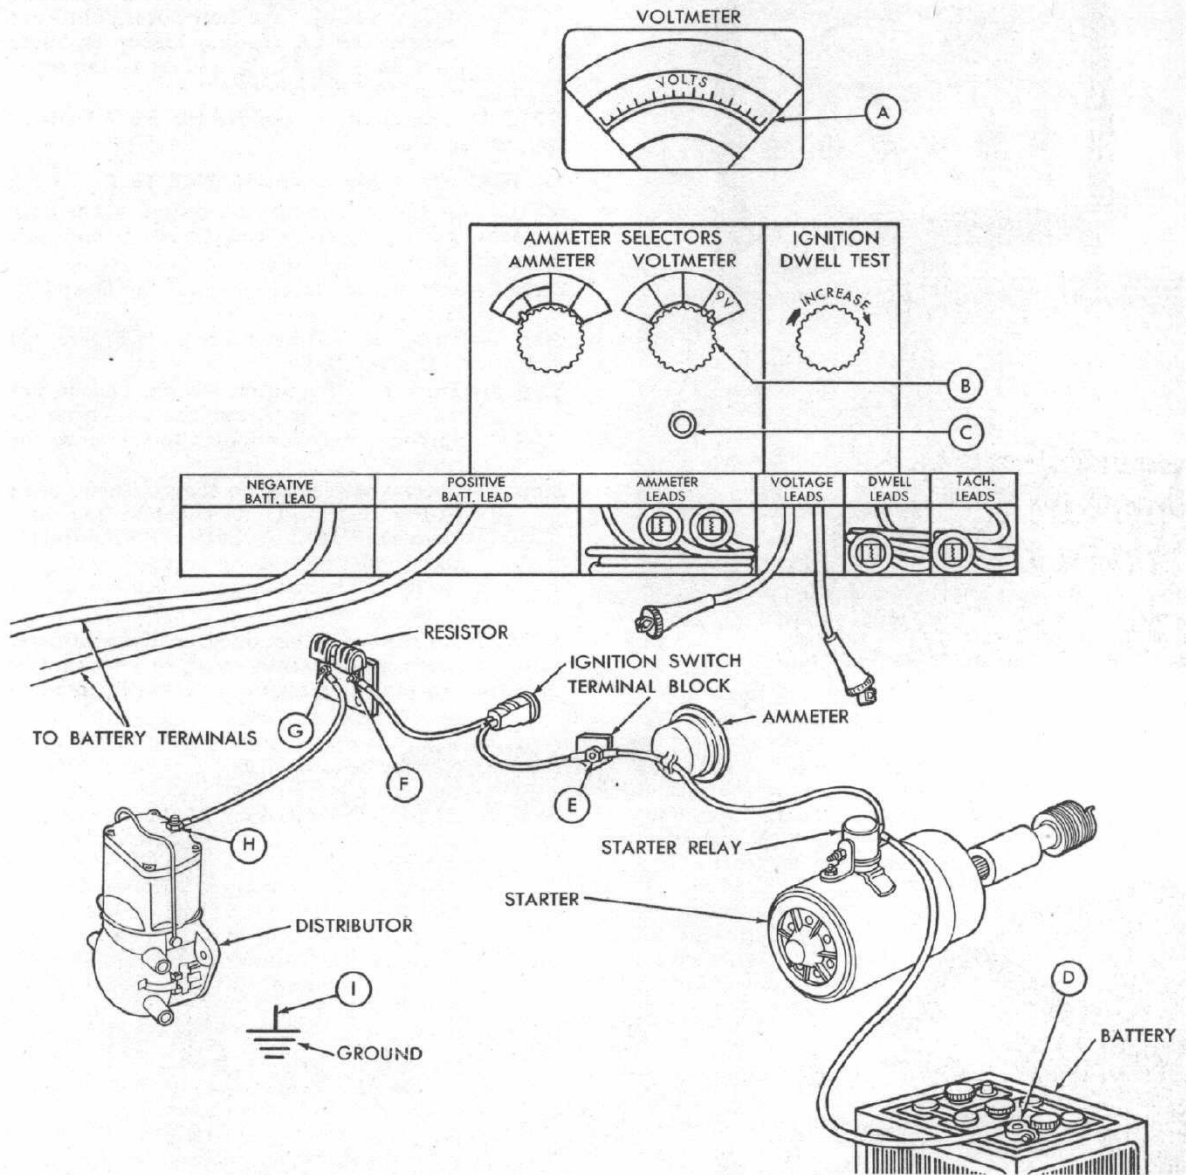

Fig. 12
Step 1—Attach the voltmeter leads to (D and E-Figure 12).
Step 2—Turn the voltmeter knob (B-Figure 12) to the 9-VOLT scale.
Step 4—Check the reading on the voltmeter scale (A-Figure 12). If it is below one volt, press the 9/10 volt button (C-Figure 12) and divide the reading on the 9-volt scale by 10. If the meter reads backwards, reverse the leads.
ing). Check the specifications sheet accompanying this Job Plan for the maximum voltage drop. Follow this procedure attaching the voltmeter leads to the following points in Figure 12; E and F, F and G, G and H, H and I.